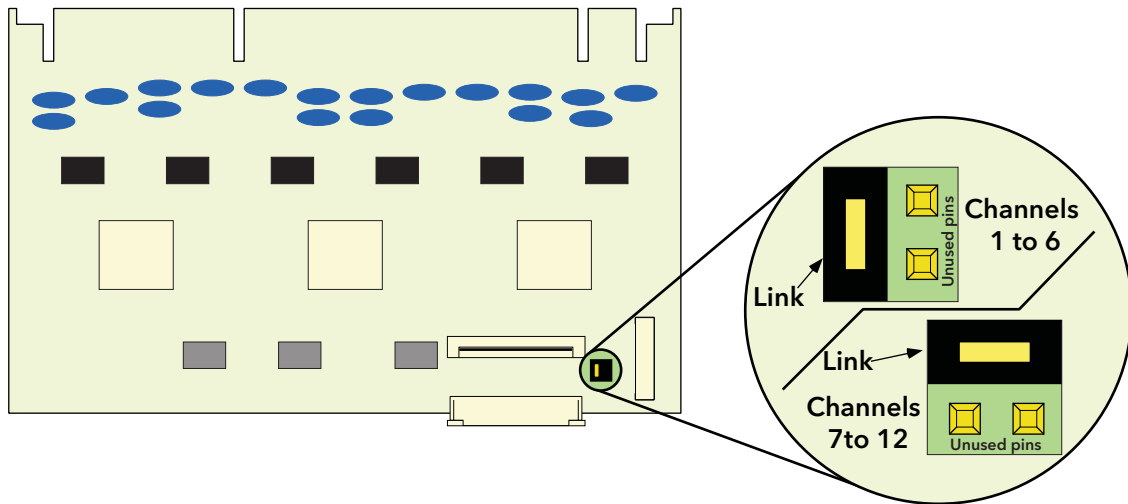

Figure 11 Input board link setting positions
25. Set the address link for board 2, as shown in figure 11, and slide the circuit board into place. Connect the necessary flexi cables (conductive surface (bright-ends) uppermost) as follows.